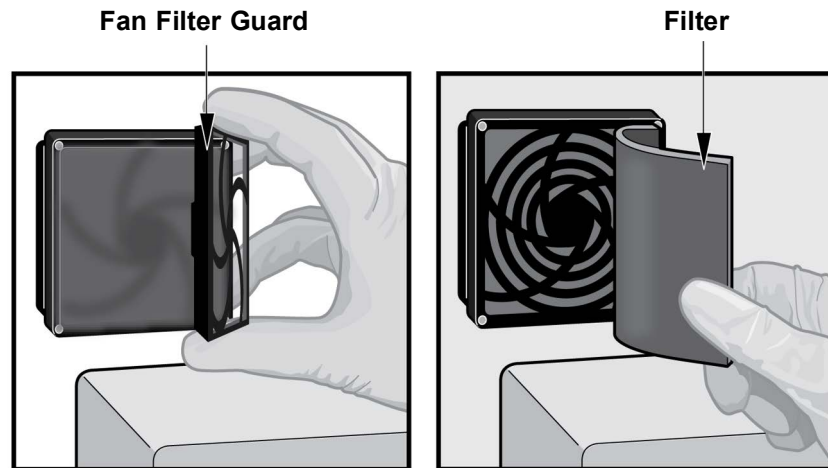

Figure 9-19. Removing Fan Filter Guard
4. Gently take the fan filter guard off by unsnapping the guard from the fan housing (see Figure 9-19), and place it aside for the remainder of the procedure for filter removal and cleaning.
5. Remove the dirty filter(s) for cleaning. See Figure 9-19.